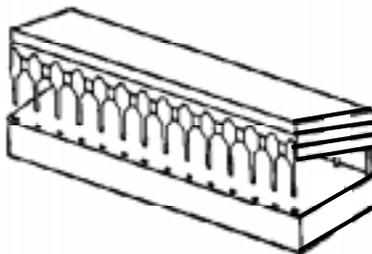

Figure 4: Inserting Pins in One Side of Socket
6. Carefully insert the pins on one side of the RTC/NVRAM chip into holes on the correct side of the socket (see Figure 4).